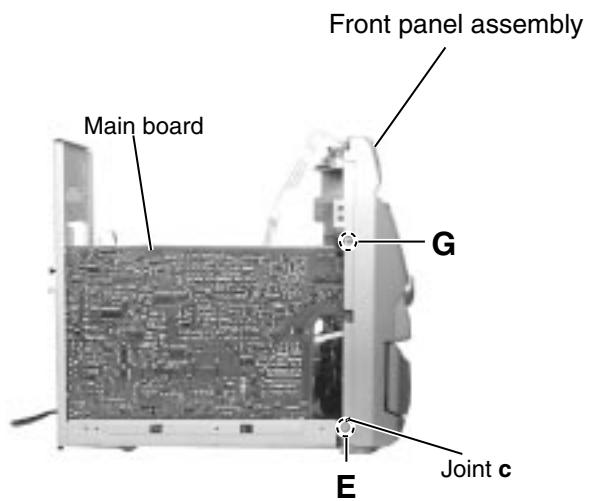

Fig.12
- Remove the screw **G** attaching the main board holder. (See Fig.12)